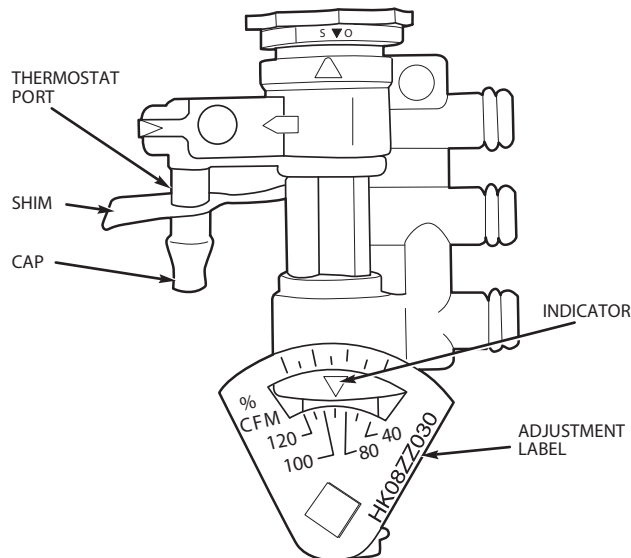
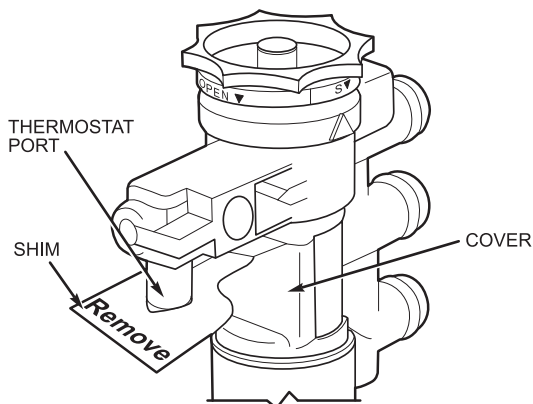

Fig. 34 — Setting Maximum Volume (37HS Controller)
Fig. 35 — Shim Removal
5. Remove cap from thermostat port of volume controller. See Fig. 34. Pull shim down until released from thermostat port and then pull shim out from volume controller body. See Fig. 35. Discard shim. Re-install cap on the thermostat port.
Remove cap from thermostat port of volume controller. See Fig. 34. Pull shim down until released from thermostat port and then pull shim out from volume controller body. See Fig. 35. Discard shim.
- a. Remove cap from thermostat port of volume controller. See Fig. 34. Pull shim down until released from thermostat port and then pull shim out from volume controller body. See Fig. 35. Discard shim.